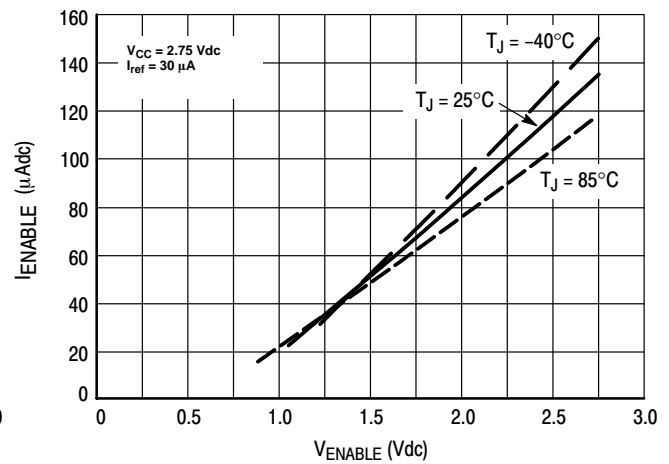

Figure 5. I_{enable} versus V_{enable}
- Step 2: Insure that Min V_{ENBL} is \geq minimum indicated in Figures 5 and 6.